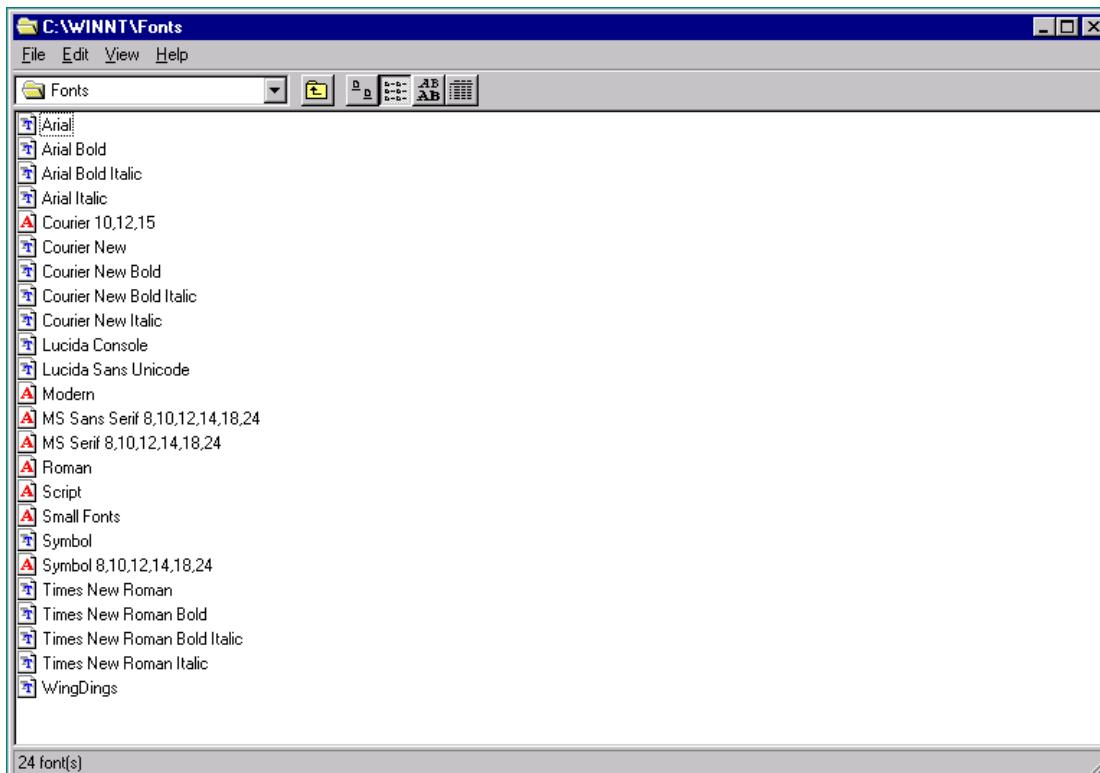

FIGURE 27. Example of Fonts Dialog
- 8.50 Check to see if the 'NAD_CV' or 'NAD_NIBP' fonts are installed. If they are, remove them by selecting them, and press the Delete key on the keyboard connected to the NM6000. See Figure 27.